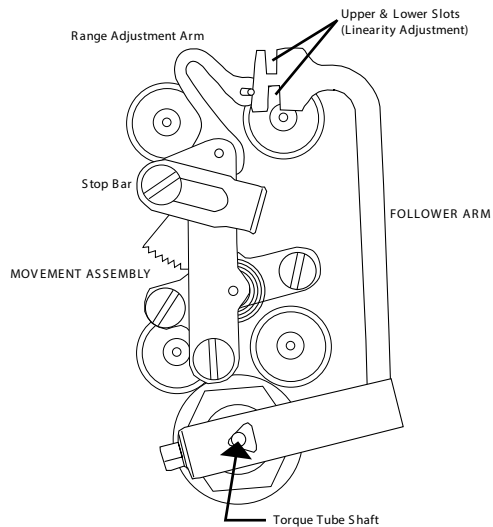

Figure 2-3. Span/Linearity Adjustment
8. Apply 100% pressure. Observe pointer indication. If the pointer indicates more or less than 100% pressure, adjust as follows (ref. Figure 2-3):
10. Apply 50% pressure and observe the pointer indication. If pointer indicates more or less than 50% scale, adjust as follows (ref. Figure 2-3):